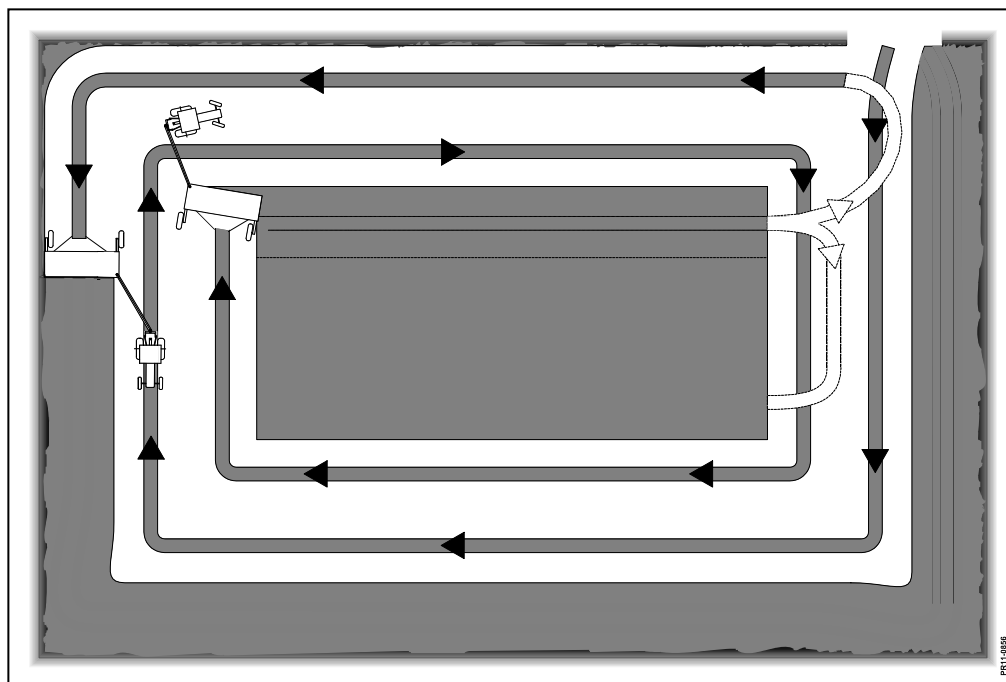

Fig. 3-2
**Fig. 3-2** Place the machine in working position. In this position drive clock-wise for some rounds so that there is space to turn at the ends of the field. The preparation of the headland is ended by mowing the outermost round, driving counter clock-wise. Then the field is ready to be harvested in one piece, or divided into sections, as required. The speed varies from 6-19 km/h depending on the crop and the working conditions.